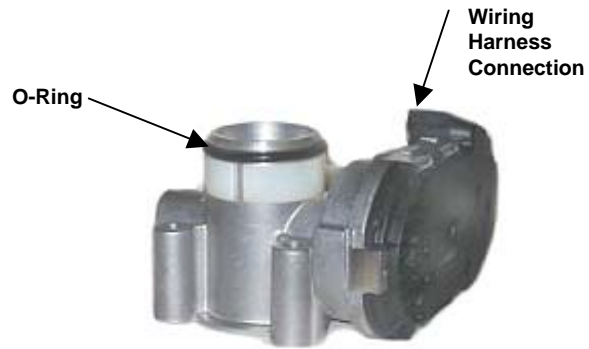
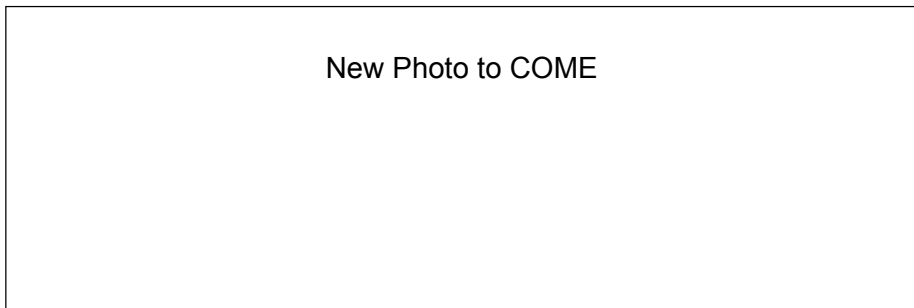

Figure 28. O-Ring and Spacer Within Mixer Adapter Assembly
Figure 29. Throttle Adapter Mount Screws & Vacuum Port Barbs
Refer to **Figure 28**.
4. Remove the air cleaner hose (1).
5. Mark the two vacuum lines (2) to the mixer for identification, as they must be reinstalled correctly for proper operation. Remove the two vacuum lines.
6. Remove vapor fuel inlet line (3) from the fuel temperature sensor fitting (4).
7. Disconnect the fuel temperature sensor connector (5).
8. Disconnect the wires leading to the electronic throttle body by pinching the lock tabs on either side of the wiring harness connector. (See **Figure 28** for location of connector.)
9. Loosen the four bolts (6) that secure the mixer/adapter/throttle body assembly to the intake manifold.
10. Remove the mixer (9), the adapter (7), and the throttle body (8) as an assembly by gently pulling upwards. Take care not to drop anything down the intake manifold.
13. Remove the fuel temperature sensor (not shown) from the tee (4).
15. Remove the short vacuum port barb from the mixer. (See **Figure 29** for location of port barb on mixer.)
1. Install the vacuum port barb onto the mixer (9).
2. Install the fuel temperature sensor fitting (4) onto the mixer.
4. Install the four mounting screws that attach the throttle adapter (7) to the mixer. See **Figure 29**.
5. Position the mixer/adapter assembly onto the throttle body (8), then drop in the four mounting bolts (6) and gently push down on the assembly until it rests on the throttle body. Be careful not to pinch the O-ring.
(See **Figure 28**.)
7. Connect the wiring harness to the throttle body. (See **Figure 28** for location of connector.) Connect the fuel temperature sensor connector (5) to the sensor.
8. Install the vapor fuel inlet line (3) to the fuel temperature sensor fitting.
9. Install the two vacuum lines (2) to the mixer using the previous marks for identification. Vacuum lines must be installed correctly for proper operation.
10. Install the air cleaner hose (1).